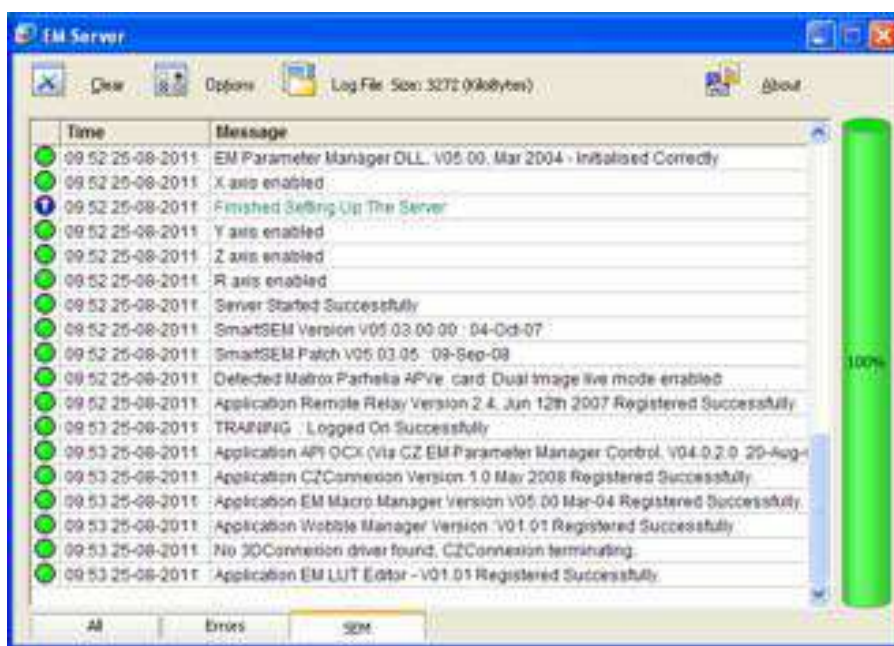

Figure 7 EM server window
- The EM server window will pop-up as shown in Fig. 7 and initialization will complete in under a minute. Do not be alarmed in case you encounter a **5V supply failure** message. This usually disappears in a few seconds. Minimize the EM server window when initialization is complete.